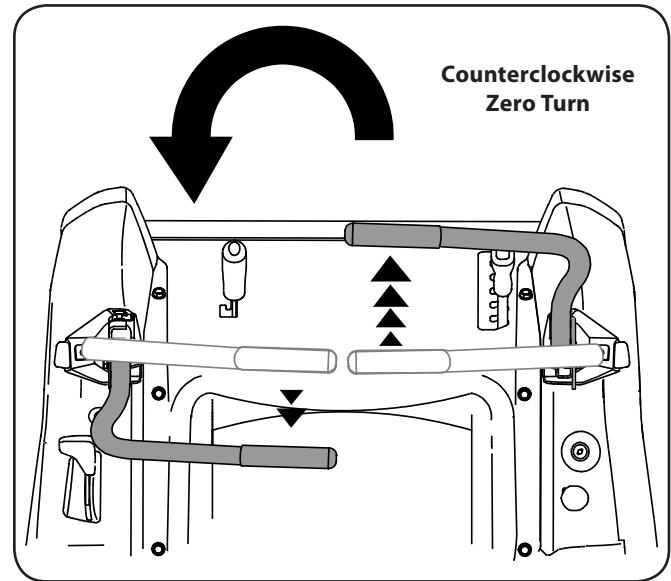

Figure 5-10
- To turn counterclockwise, move the right control lever forward while simultaneously moving the left control lever rearward. See Fig. 5-10.